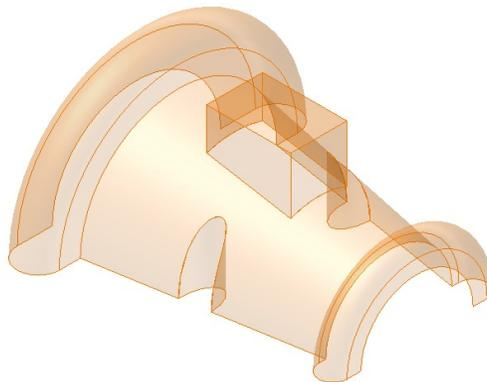

Figure 14-64 Model after covering the top face of the lofted surface
- i. Create a boundary patch to close the top face of the lofted surface, refer to Figure 14-64.
14. Select the top edges of the lofted surface and choose **OK** from the **Boundary Patch** dialog box; a boundary patch covering the top of the lofted surface is created, see Figure 14-64.